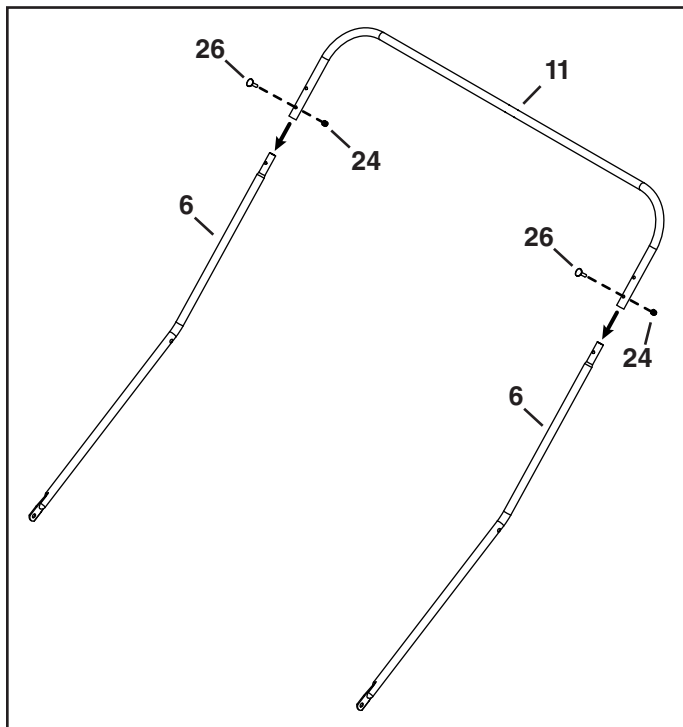

FIGURE 10
17. Install a rear hopper tube (11) onto the two upper hopper tubes (6). See figure 10.
18. Secure the upper hopper tubes (6) to the rear hopper tube (11) using two 1/4" x 1" curved head bolts (26) and 1/4" nylock nuts (24). Bolt heads should face up as shown in figure 10.